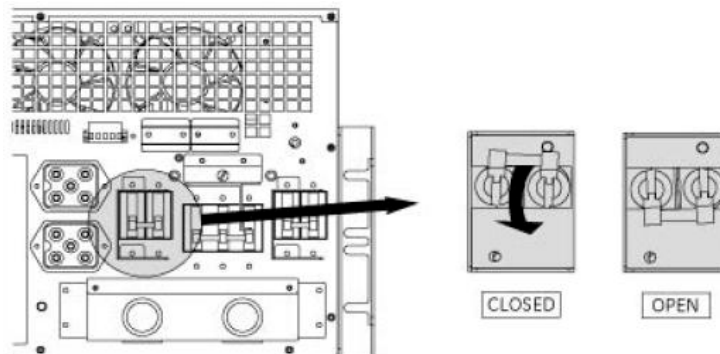

FIG 65 – 10KVA OUTPUT BREAKER
2. Turn the OUTPUT CIRCUIT BREAKER to OFF position (FIG 65).
4. Turn the INPUT CIRCUIT BREAKER to OFF position (FIG 65).